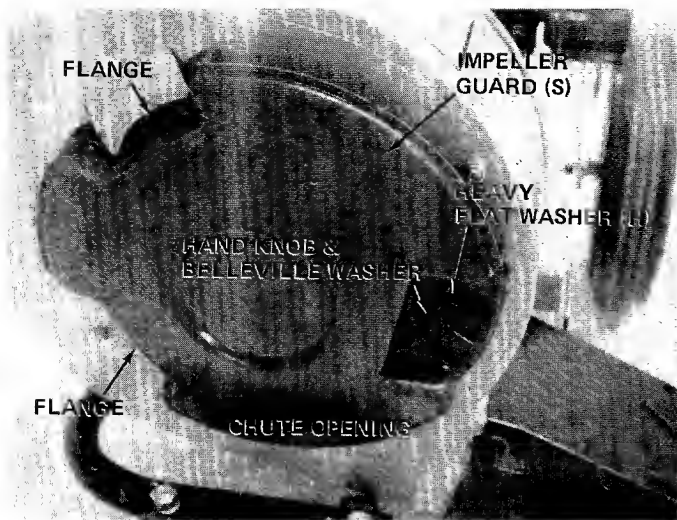

FIGURE 13
5. Lift up on the housing and rotate it 105° clockwise. Chute opening should be to the right hand side when viewed from the front of unit. See figure 13.
6. Place the impeller guard (S) into flanges on front of housing. Line up hole in screen with hole on housing. Secure with one hand knob, belleville washer and heavy flat washer (H). See figure 13.